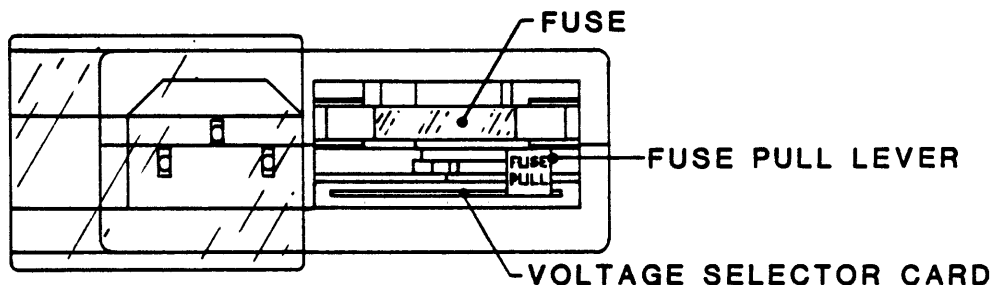

Figure 2-8 Power-In Assembly
Unless otherwise ordered, the Drive is factory-set for 120-volt operation. Other voltage choices can be 100, 220, or 240. Locate the Power-In Assembly (Figure 2-8) at the rear of the unit (Figure 2-6), and verify that the Voltage Selector Card behind the plastic slide cover is installed with the correct voltage legible (as ordered).
- A. Remove the ac power cord (if installed) from the Power-In Assembly (Figure 2-8), slide the plastic cover to the left and, using long nose pliers (if necessary), remove the Voltage Selector Card.